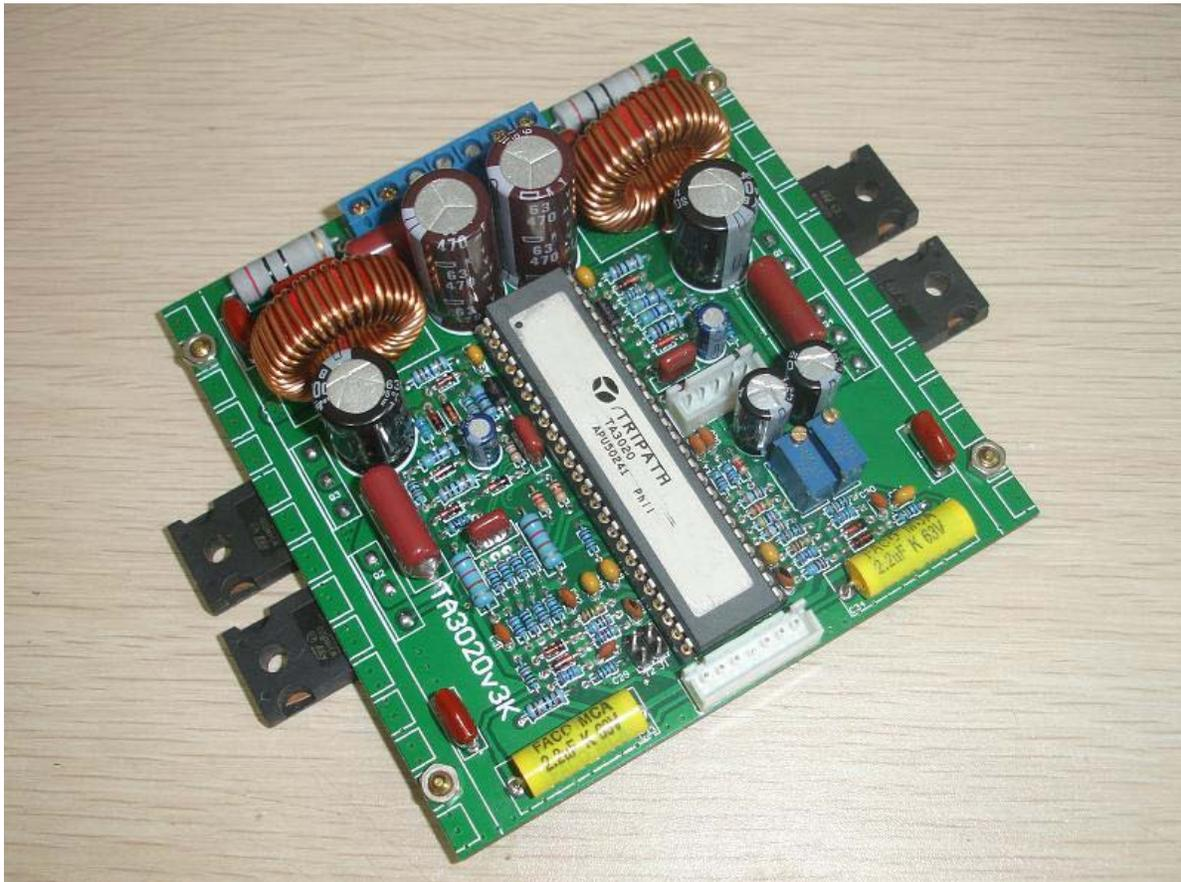
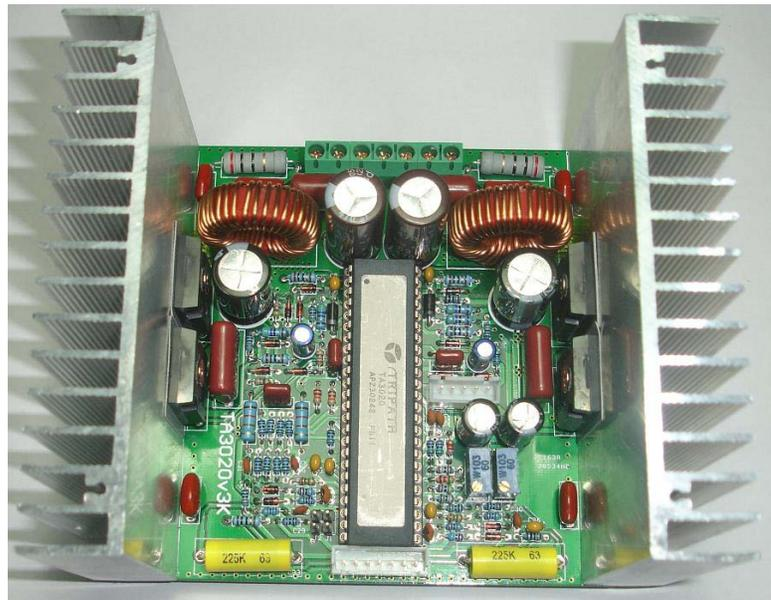

Figure 1: TA3020 Audio Amplifier Module v3b
Figure 7: TA3020v3k Board heatsink version overview
The heatsink version, comes with two 100x50x18mm vertical fins heatsinks, like the ones from the Figure 7. The heatsinks are mounted directly on the PCB and does not require additional support if the amplifier is installed in a suitable enclosure.
- Complete assembled and tested version, as can be seen in Figure 1 or Figure7.